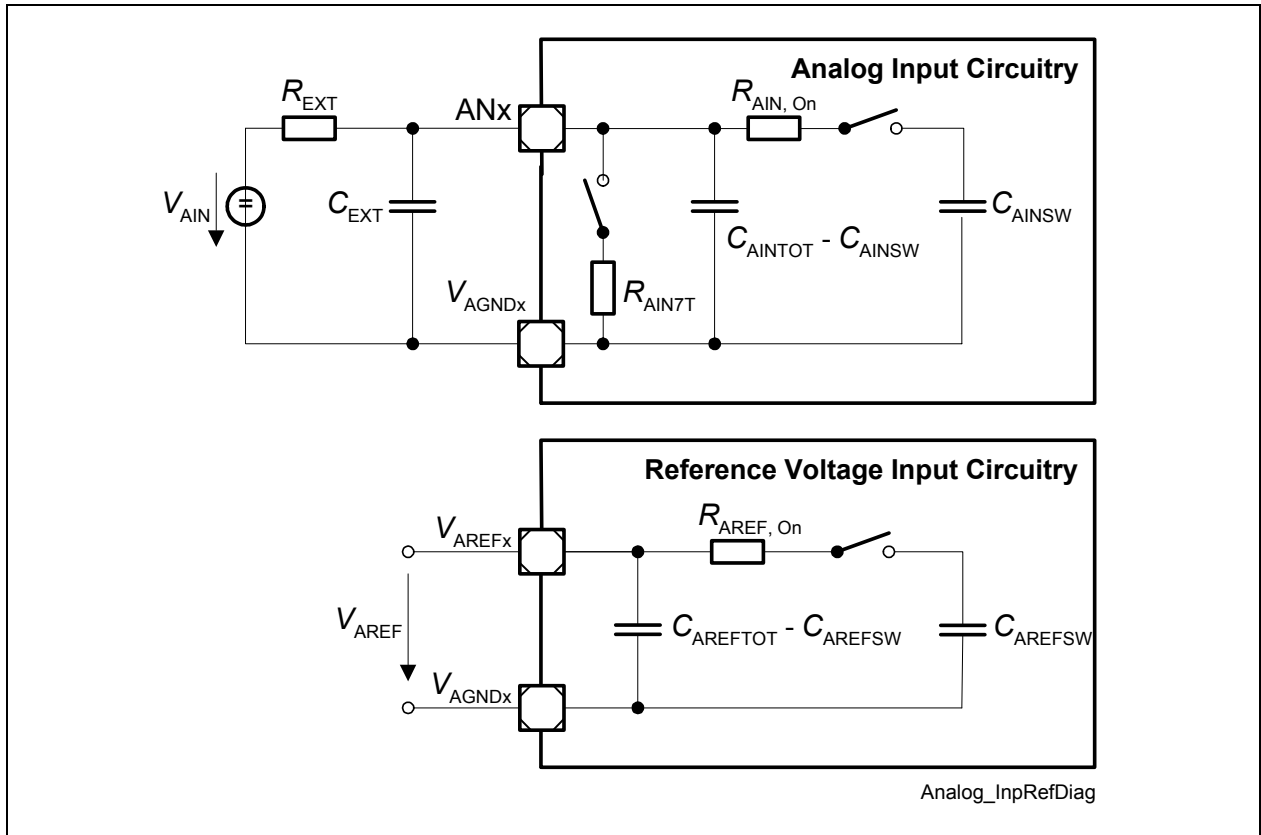

Figure 4-2 ADC0 Input Circuits
- 15) For the definition of the parameters see also Figure 4-2.